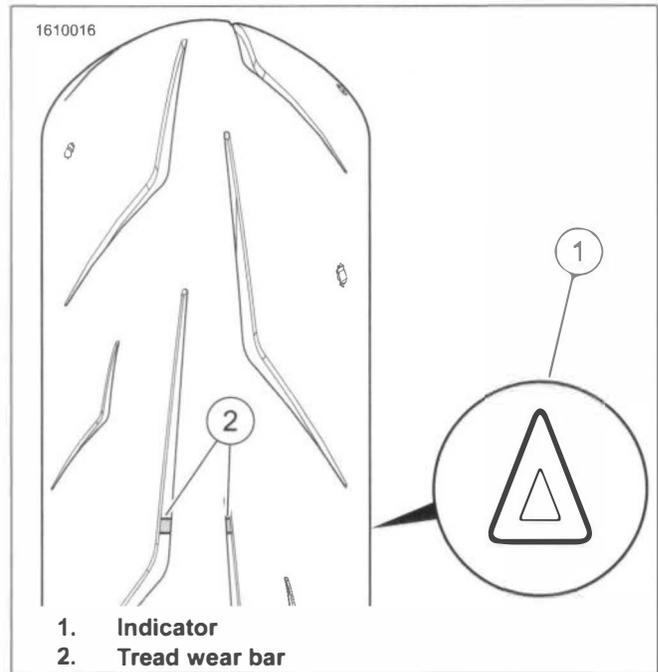

Figure 3-16. Tread Wear Indicator: Dunlop Tires
- See Figure 3-16. The tread wear indicators appear when $\frac{1}{32}$ in (0.8 mm) or less tread remains. Always replace tires before tread is worn to the indicators.